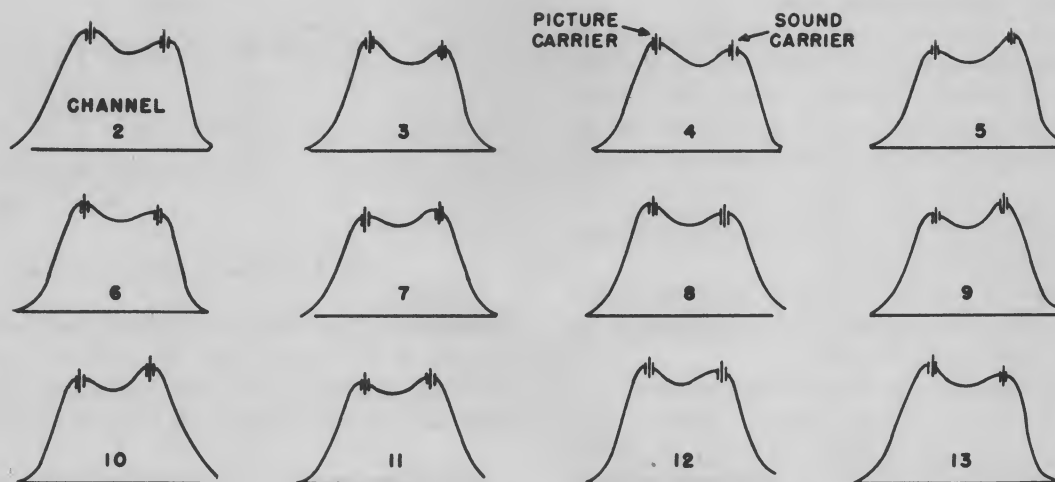

Fig. 9-16. Typical response curves for TV tuners. Courtesy Hallicrafters.
b. Place the scope direct probe to the mixer test point through an isolation resistor of about 10,000 ohms. If there is no mixer test point, double the size of the isolation resistor (20,000 ohms) and connect it directly to the mixer grid circuit. Set channel selector to some reference channel. This may be Channel 13 or 12 on some tuners, or 13 or 6 on others. Adjust sweep generator to sweep the frequency of the selected channel, with a sweep width of 10 mc to 15 mc. Insert the corresponding picture and sound markers. Keep the marker generator output as low as possible, to avoid distortion of the response curve. However, it may be necessary to maintain maximum generator output if there is insufficient scope waveform. Refer to Fig. 9-16 for some typical response curves.